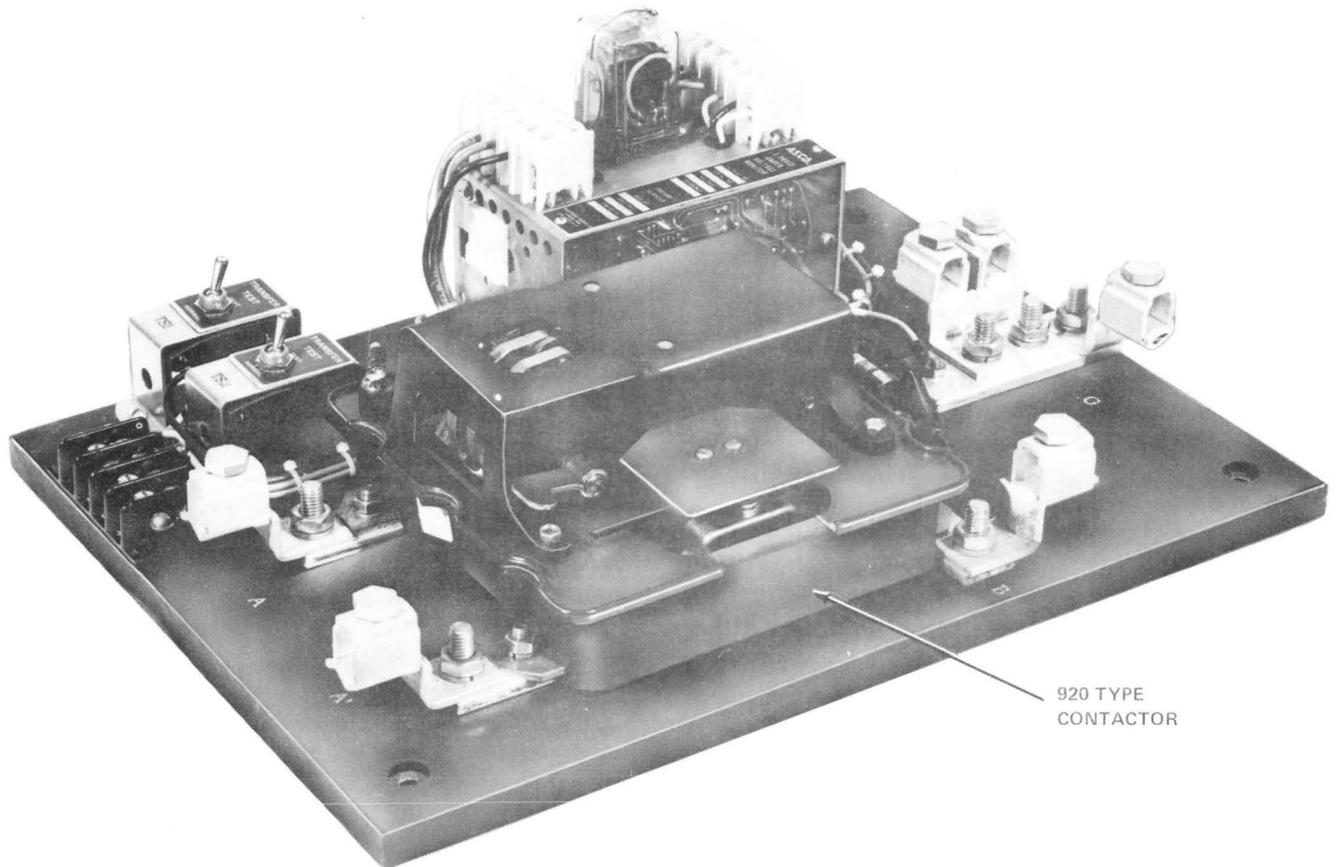

Fig. 9—920-Type Contactor Shown as KS-5189-03 Emergency Lighting Switch (New Version)
To check the requirement, listen for the release of the auxiliary switch or remove the cover and note that when the catch releases, the arm moves to the position shown in Fig. 9.
2.09 The 909-type contactor is designed for single-phase operation, 30 amps and lower. The 920-type contactor (Fig. 9) is designed to be used on 30 through 225 ampere, single and 3-phase